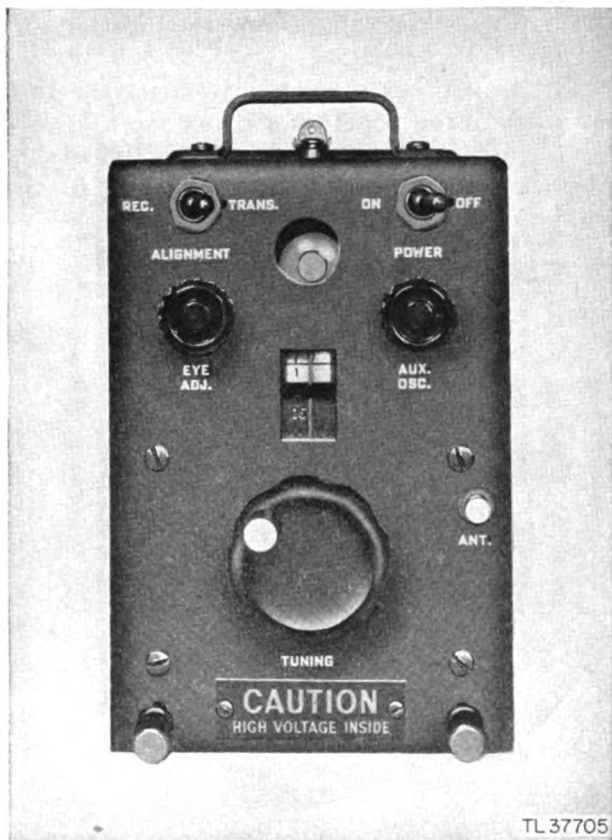

Figure 26. Wavemeter—front panel.
- (8) Inspect the setscrews on the shaft of the potentiometer for tightness.
- (9) Inspect the variable tuning capacitor for clearance of plates and mechanical operation.
- (10) Inspect all connections for proper soldering and tightness.
- (11) Tighten all mountings, screws, and holding brackets where necessary.
- (12) Clean the under side of the wavemeter when necessary.
- ITC. FRONT PANEL OF WAVEMETER (fig. 26).